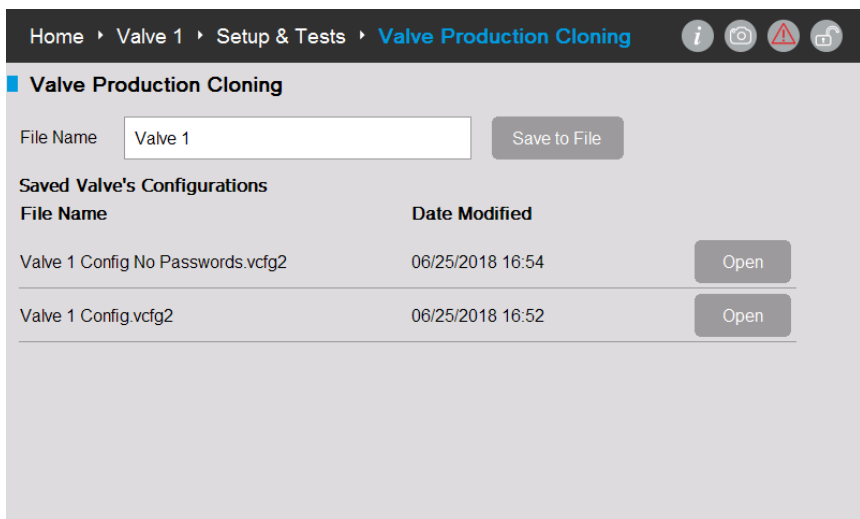

Fig. 136: Valve Production Cloning screen.
1. Save the valve's configuration, using the valve production cloning procedure for a configured valve. Refer to the Configured Valve Procedure in CHAPTER 7 for detailed cloning steps. Fig. 136 shows the valve production cloning save/load screen.